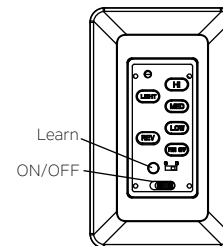

Fig. 23
Step 1. After installation is complete, press the LEARN button for 3 seconds within 30 seconds once AC power is turned on. Fan will turn on at medium speed and light (if installed) will turn on. This confirms that the SMART SYNC setting is active and ok. (Fig. 23)
Restore power to ceiling fan and test for proper operation (Fig. 23)